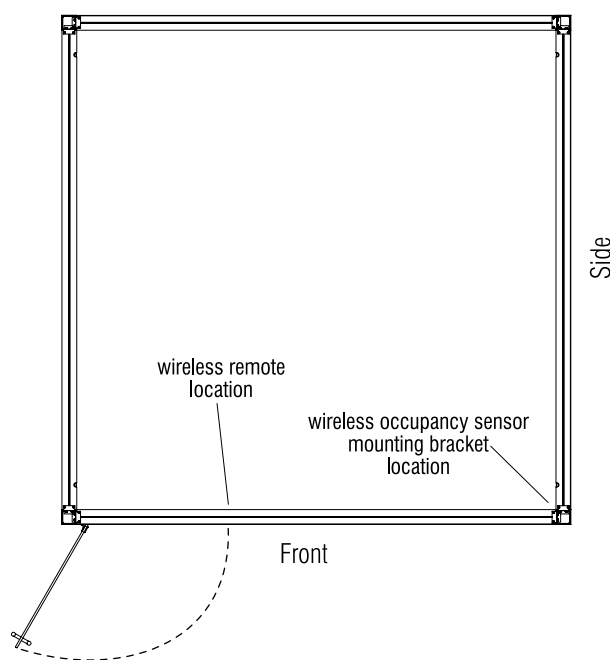

Figure 1
1. Reference the Figure 1 diagram to choose a front-to-side wall inside corner, away from the doorway as the location to install the wireless occupancy sensor. Make a pencil mark at 5' up from the floor in the corner location to receive the occupancy sensor (Figure 1).